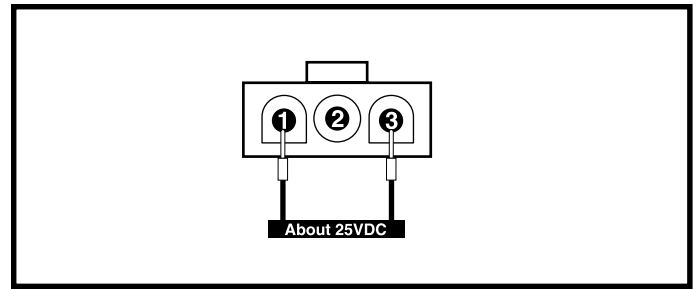
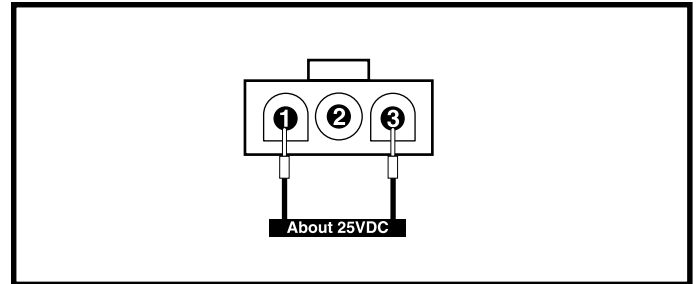

Figure 8. Connector 5b
Figure 9. Connector 1c
17. Measure voltage across pin 1 and pin 3 of connector 5b. **See figure 8.**
- If your multimeter indicates about 25VDC, then replace the battery charger (6) and retest the system.
19. Measure voltage across pin 1 and pin 3 of connector 1c. **See figure 9.**
- If your multimeter indicates 0VDC, then replace the VSI controller (1) and retest the system.
- If your multimeter indicates about 25VDC, then replace the charger inhibit harness (5) and retest the system.
27. Measure voltage across pin 1 and pin 3 of connector 5b. **See figure 8.**
28. Verify that the charger inhibit harness (5) is connected to the fuse (5c) and ammeter properly (connectors 5d and 5e). **See diagram 3.**
30. Measure voltage across pin 1 and pin 3 of connector 1c. **See figure 9.**
- *If your multimeter indicates 0VDC*, then replace the VSI controller (1) and retest the system.
31. Measure resistance across pin 1 and pin 2 of the ammeter (4).
- *If your multimeter indicates less than 1 ohm*, then replace the charger power interface harness (7) and retest the system.
- *If your multimeter indicates more than 1 ohm*, then replace the ammeter (4) and retest the system.